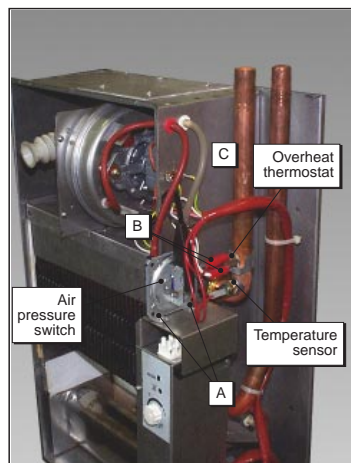

Fig. 47
7.05 Overheat Thermostat (fig. 47)
7.06 Air Pressure Switch Removal (fig. 47)
7.07 Temperature Sensor (fig.47)